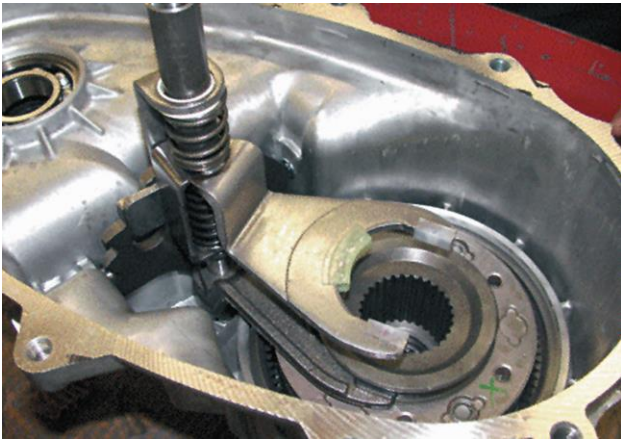

Figure 6. Inspect the shift forks for wear and proper movement.
- Shift fork clearance and operation. Figure 6.